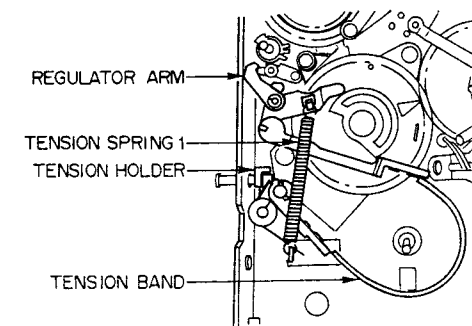

Fig. 3-37
3. Play back the TORQUE METER CASSETTE TAPE (AJ-719917) for more than 10 seconds then confirm that the reading on the meter is  $15 \pm 3$  g-cm. If the reading is not satisfactory, replace the TENSION SPRING 1 (refer to Fig.3-37).